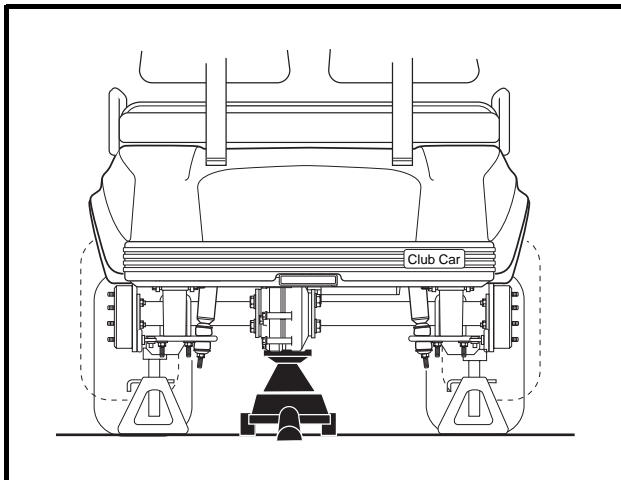
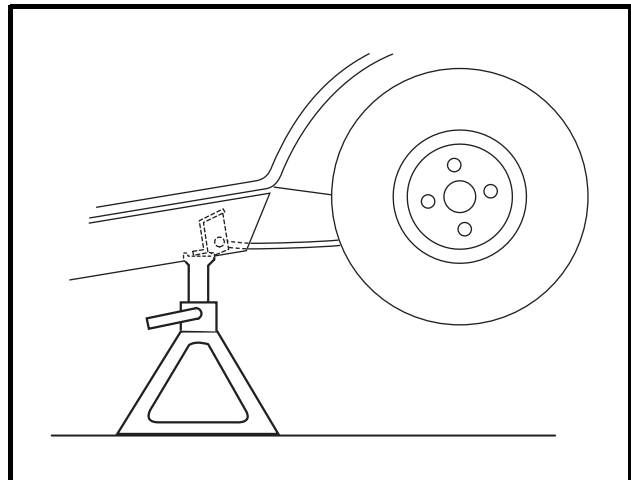

Figure 16-2 Lift Vehicle with Floor Jack
Figure 16-3 Vehicle Supported on Jack Stands
4. Place floor jack under transaxle and raise rear of vehicle (**Figure 16-2, Page 16-3**) then place jack stands under frame crossmember between the spring mount and the side stringer, just forward of each rear wheel. Lower the vehicle to let the jack stands support the vehicle (**Figure 16-3, Page 16-3**). See following **WARNING**.